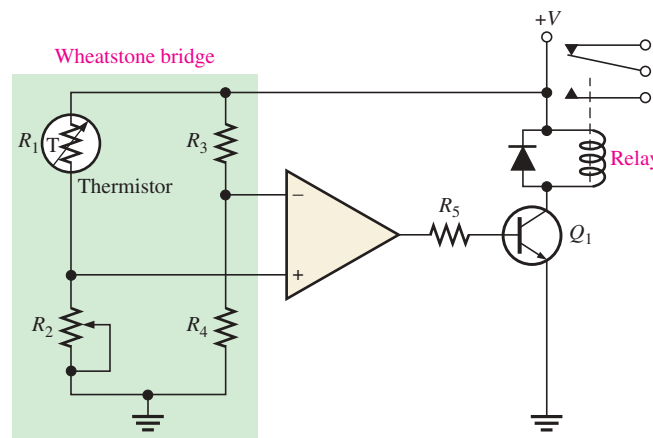

FIGURE 13–15
The operation is as follows. Since the anode of the zener is connected to the inverting ($-$) input, it is at virtual ground ($\cong 0$ V). Therefore, when the output voltage reaches a positive value equal to the zener voltage, it limits at that value, as illustrated in Figure 13–11(a). When the output switches negative, the zener acts as a regular diode and becomes forward-biased at 0.7 V, limiting the negative output voltage to this value, as shown in part (b). Turning the zener around limits the output voltage in the opposite direction.
◀ **FIGURE 13–11**
Two zener diodes arranged as in Figure 13–12 limit the output voltage to the zener voltage plus the forward voltage drop (0.7 V) of the forward-biased zener, both positively and negatively, as shown.
◀ **FIGURE 13–12**
Determine the output voltage waveform for Figure 13–13.
Related Problem Determine the upper and lower trigger points for Figure 13–13 if $R_1 = 150\text{ k}\Omega$, $R_2 = 68\text{ k}\Omega$, and the zener diodes are 3.3 V devices.
Over-Temperature Sensing Circuit Figure 13–15 shows an op-amp comparator used in a precision over-temperature sensing circuit to determine when the temperature reaches a certain critical value. The circuit consists of a Wheatstone bridge with the op-amp used to detect when the bridge is balanced. One leg of the bridge contains a thermistor (R_1), which is a temperature-sensing resistor with a negative temperature coefficient (its resistance decreases as temperature increases). The potentiometer (R_2) is set at a value equal to the resistance of the thermistor at the critical temperature. At normal temperatures (below critical), R_1 is greater than R_2 , thus creating an unbalanced condition that drives the op-amp to its low saturated output level and keeps transistor Q_1 off.
The *simultaneous*, or *flash*, method of A/D conversion uses parallel comparators to compare the linear input signal with various reference voltages developed by a voltage divider. When the input voltage exceeds the reference voltage for a given comparator, a high level is produced on that comparator's output. Figure 13–16 shows an analog-to-digital converter (ADC) that produces three-digit binary numbers on its output, which represent the values of the analog input voltage as it changes. This converter requires seven comparators. In general, $2^n - 1$ comparators are required for conversion to an n -digit binary number. The large number of comparators necessary for a reasonably sized binary number
► FIGURE 13–16
In Figure 13–16, the reference voltage for each comparator is set by the resistive voltage-divider circuit and V_{REF} . The output of each comparator is connected to an input of the priority encoder. The *priority encoder* is a digital device that produces a binary number on its output representing the highest value input.
The following example illustrates the basic operation of the simultaneous ADC in Figure 13–16.
Determine the binary number sequence of the three-digit simultaneous ADC in Figure 13–16 for the input signal in Figure 13–17 and the sampling pulses (encoder enable) shown. Assume the output is latched (held) after each sample pulse. Draw the resulting digital output waveforms.
► FIGURE 13–17